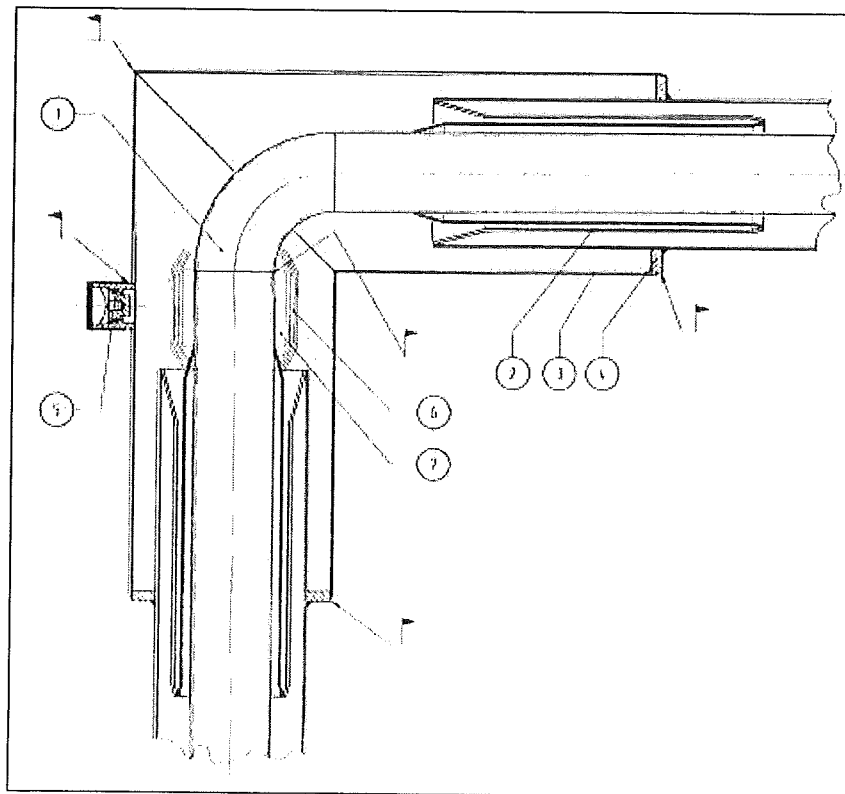

Figure 3: 90° welded coupling DeMaCo Holland bv
Apart from the above described straight welded coupling, DeMaCo Holland bv also supplies a 90° welded coupling. This coupling is used when two sections have to be connected at an angle of 90°. For this coupling the same fitting procedure applies as for the straight welded coupling. The only difference is the jacket (Fig.3, pos.3), which is, for this version, composed of two sections instead of one pipe section. These two sections must, before the inner piping is welded, be slid around both sections. Figure 3 shows a cross section of the DeMaCo angle welded coupling.